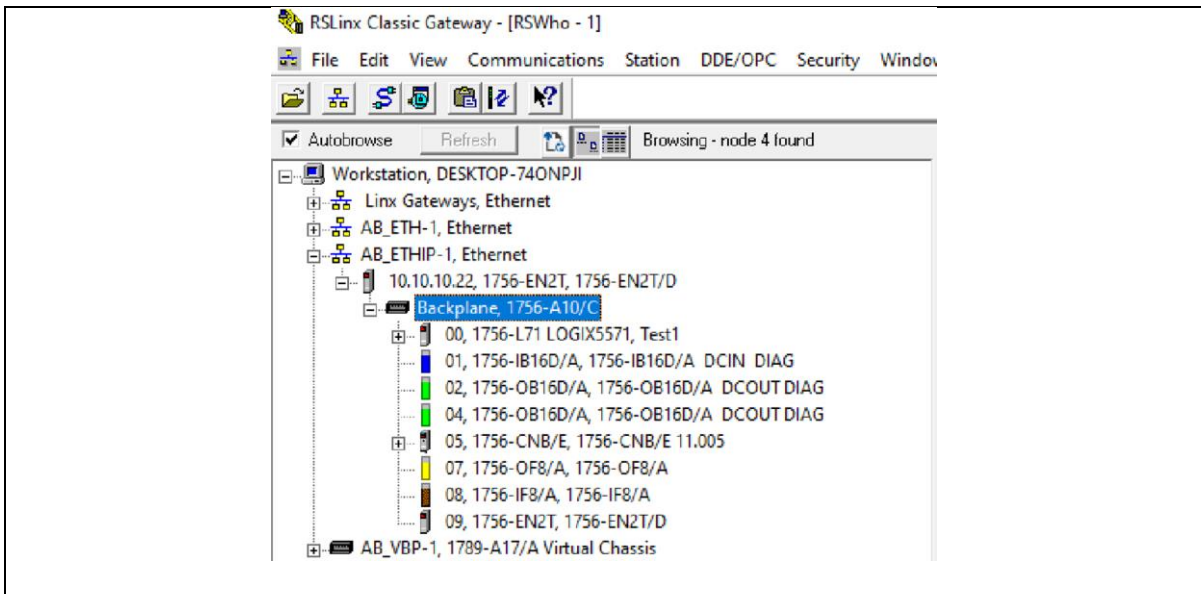

Figure 5. The modules shown at each slot in RSWho, within RSLinx.
3. **Create an Ethernet/IP driver in RSLinx,** and view the modules in the chassis with the RSWho window of your computer, as shown in Figure 5.
4. What is the name of the project in the processor in Figure 5? _____